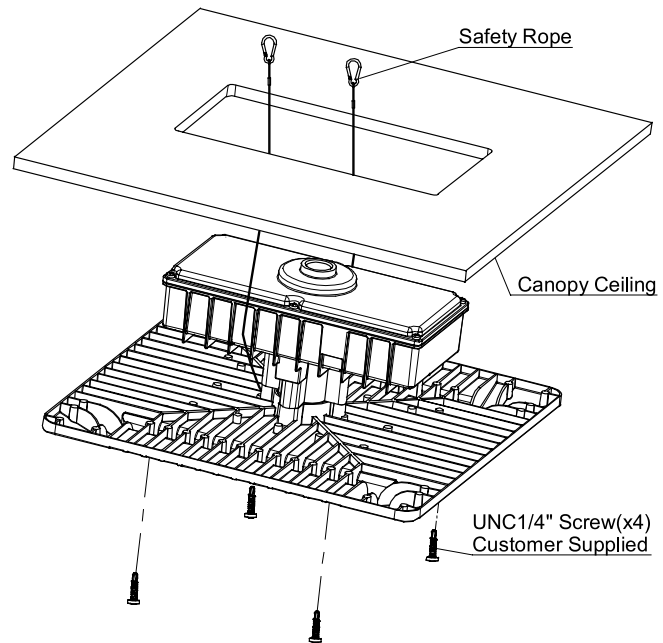

Figure 9
1. Cut a rectangular opening in the desired location of the canopy ceiling. See Figure 9.
2. Bring housing to canopy ceiling. Insert driver box and Safety Rope (2) into the rectangular opening. Support the luminaire to the building structure by the Safety Rope (2). Secure the housing to canopy ceiling with customer supplied UNC 1/4" Screw (4). See Figure 9 and 10.